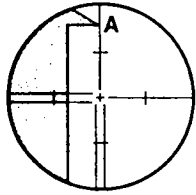

Fig. 13.12
- 1) Select and sight a clear target on the upper part A of the vertical reticle line, Fig. 13.12.